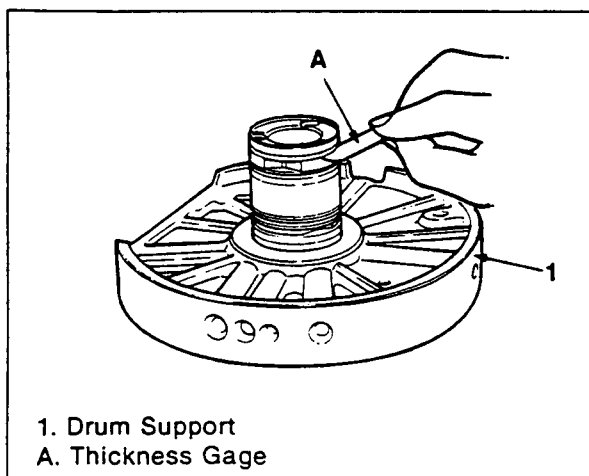

Figure 180. Clearance Check
3. Measure the clearance between the seal ring and the groove with a thickness gauge (figure 180).